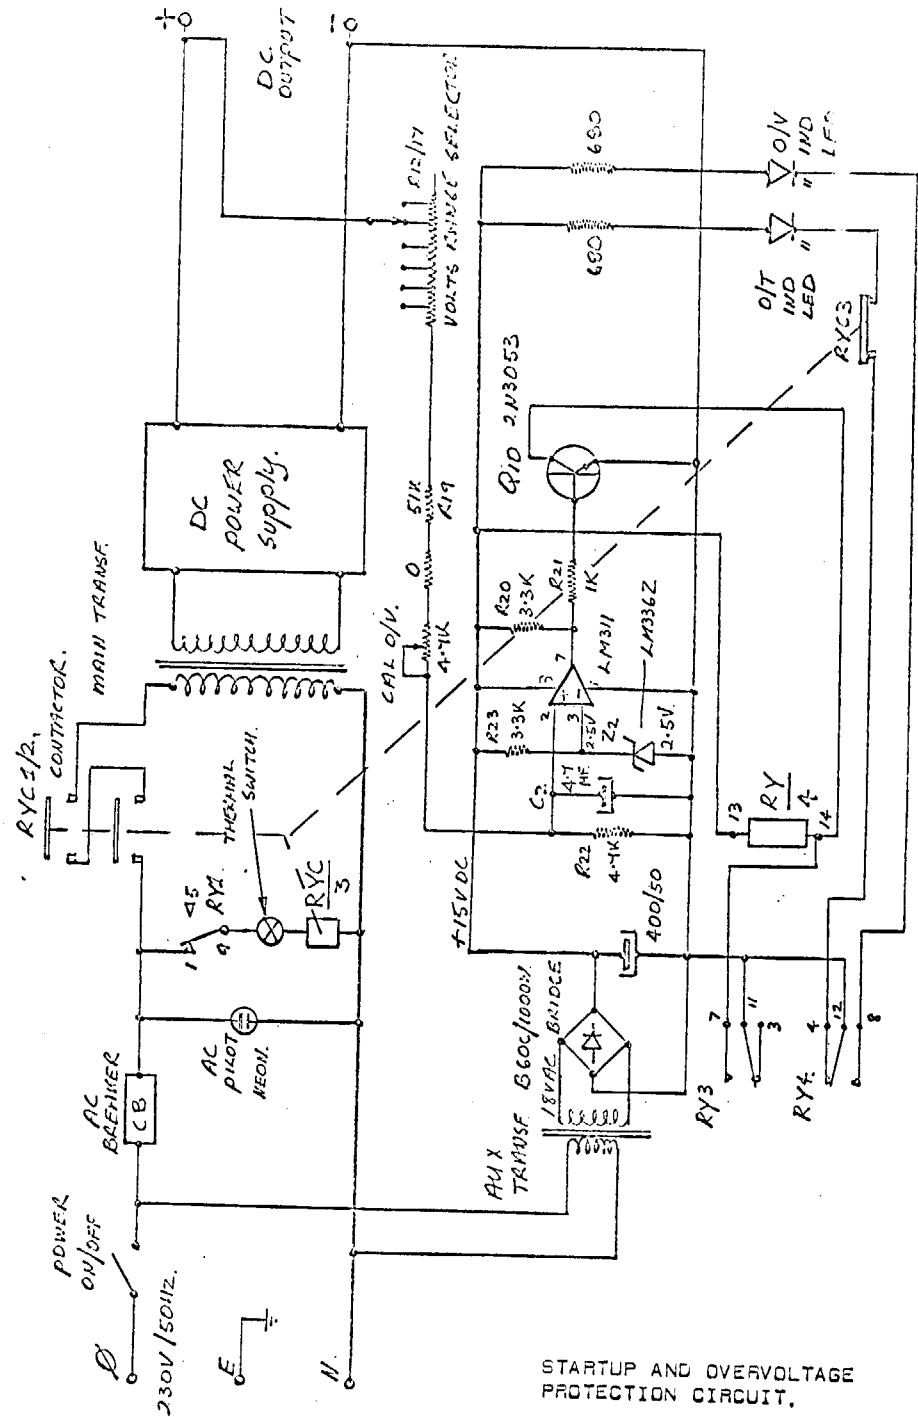

FIGURE 12
(53) Start Up and Overvoltage Protection Circuit Fig 12